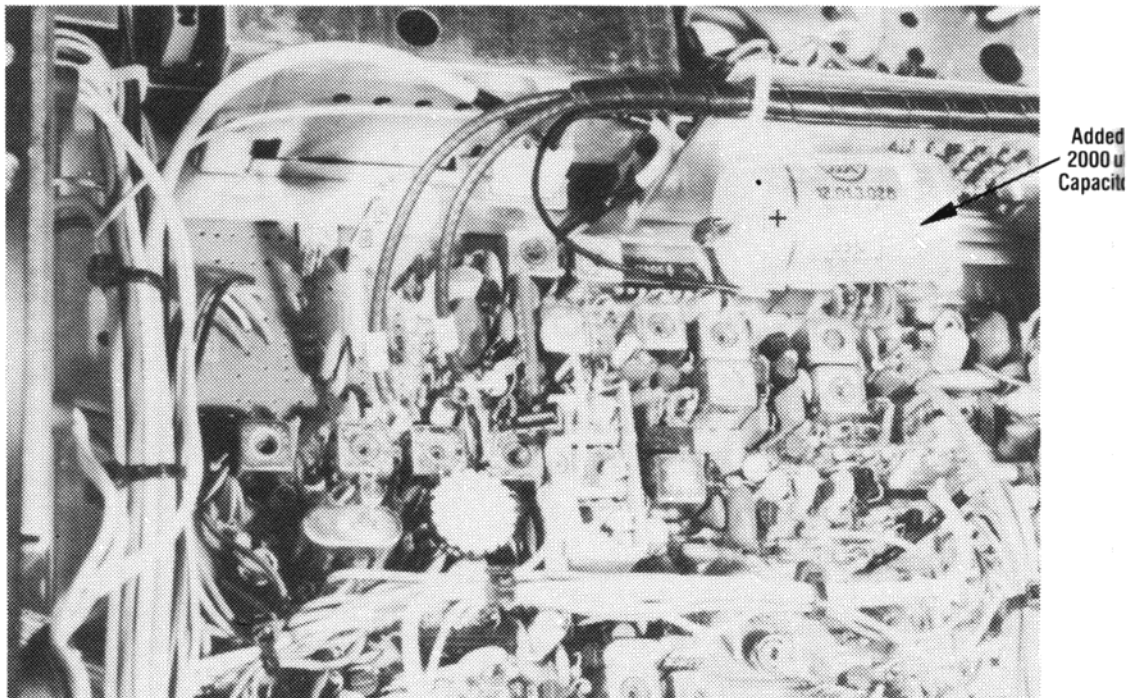

Fig. 6 — Cobra 2000 GTL with modified ground loop.
1. Add a 2000uf 16V capacitor between power supply ground and radio ground. Observe polarity! See Fig. 6.